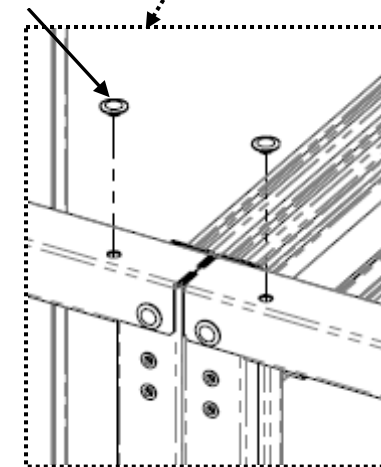

Fig. 2
2. Remove hole plugs before installing Baying kit (Fig. 2).